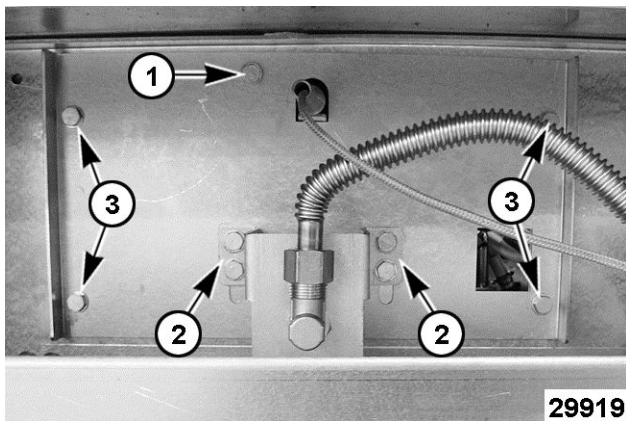

Fig. 15
2. Remove top screw (1, Fig. 15) from burner support plate for each burner section.
3. Loosen remaining screws on pilot bracket (2, Fig. 15) and burner support plate (3, Fig. 15) for each burner section. This will allow clearance to remove the thermocouple shield in step 5A.